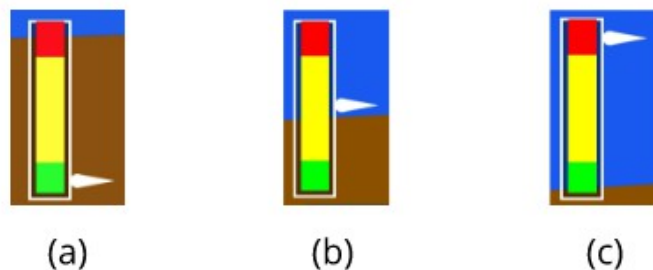

Figure 9: (a) AoA Normal area. (b) AoA warning area. (c) AoA critical area.
The upper side (red area) represents the stall angle as stored during the calibration procedure. The border between red and yellow, represents the calibrated warning angle. As a visual indication, FlySense AoA uses a vertically moving white pointer on the color-bar that indicates the actual AoA. This is illustrated below in Figure 9 that shows three (3) example cases of AoA during flight. The case in Figure 9(c) is a critical case, where the aircraft is close to a stall attitude.